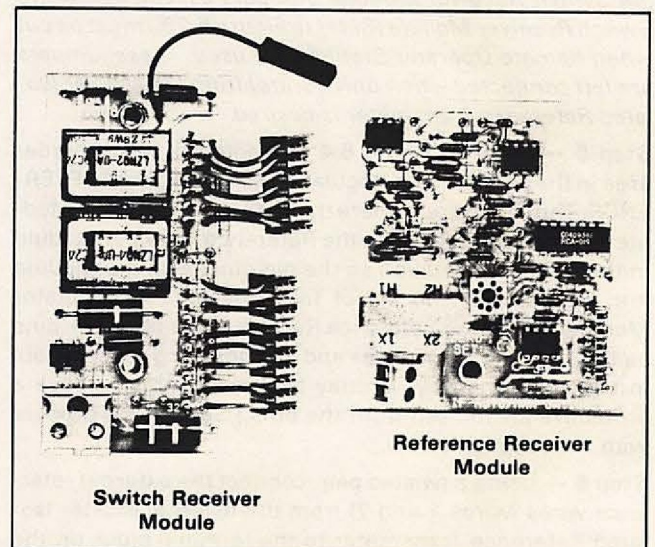

Figure 5.24 — Master Isolated Reference Receiver Kit
**5.13 Master Isolated Reference Receiver** — The Master Isolated Reference Receiver Kit may be added to special order FlexPak Plus controllers. This Kit allows the FlexPak Plus to receive and decode a PWM speed reference signal from the Master Isolated Reference Transmitter. The Receiver Kit consists of two printed circuit boards: a Switch Receiver Module and a Reference Receiver Module which are mounted on the FlexPak Plus Regulator Module. (Refer to Figure 5.24.)